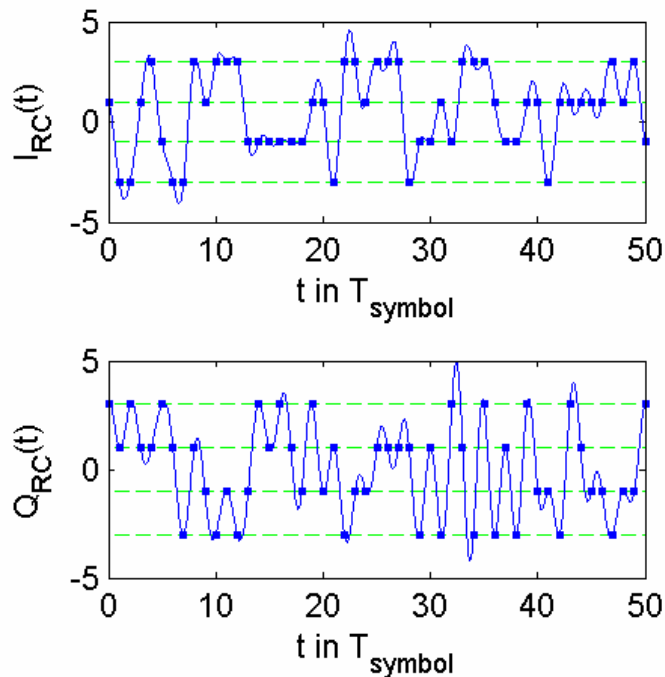

Fig. 2-48 Raised cosine filtered dirac signals  $I_{RC}(t)$  and  $Q_{RC}(t)$
We notice that the symbol instants (highlighted with squares) are not on the horizontal lines (possible symbol levels) anymore. This is due to the inter-symbol interference introduced by the root raised cosine TX filter. Contrary to the signal filtered with two root raised cosine filters (TX and RX) the one filtered with a single root raised cosine filter (TX) does not satisfy the condition for zero inter-symbol interference. Fig. 2-48 shows the signal obtained by filtering the dirac signals with two root raised cosine filters. The convolution of two root raised cosine filters is also called raised cosine filter and it results in an overall inter-symbol interference free system. We observe that all symbol instants (highlighted with squares) of  $I_{RC}(t)$  and  $Q_{RC}(t)$  have exactly the same levels as the signals  $I_{dirac}(t)$  and  $Q_{dirac}(t)$  in Fig. 2-45. Please note that this is only true for the signals  $I_{RC}(t)$  and  $Q_{RC}(t)$  if there is no noise present in the receiver. In the case of noise points will turn into clouds, that is what can be seen in the Constellation Diagram measurement \(modulation analysis\).